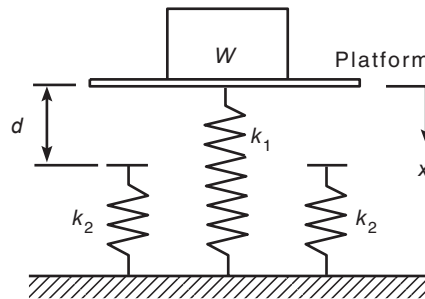

Figure P20
20. Figure P20 shows a mass-spring model of the type used to design packaging systems and vehicle suspensions, for example. The springs exert a force that is proportional to their compression, and the proportionality constant is the spring constant  $k$ . The two side springs provide additional resistance if the weight  $W$  is too heavy for the center spring. When the weight  $W$  is gently placed, it moves through a distance  $x$  before coming to rest. From statics, the weight force must balance the spring forces at this new position. Thus